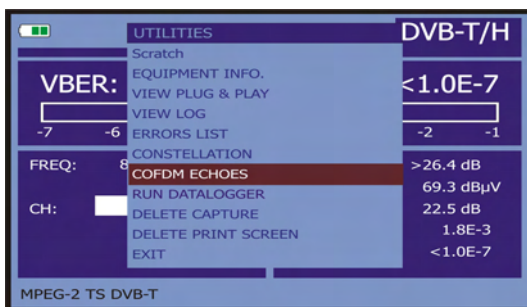

Figure 48.- UTILITIES Menu.
2. Select the option **COFDM ECHOES** (Figure 48.-).